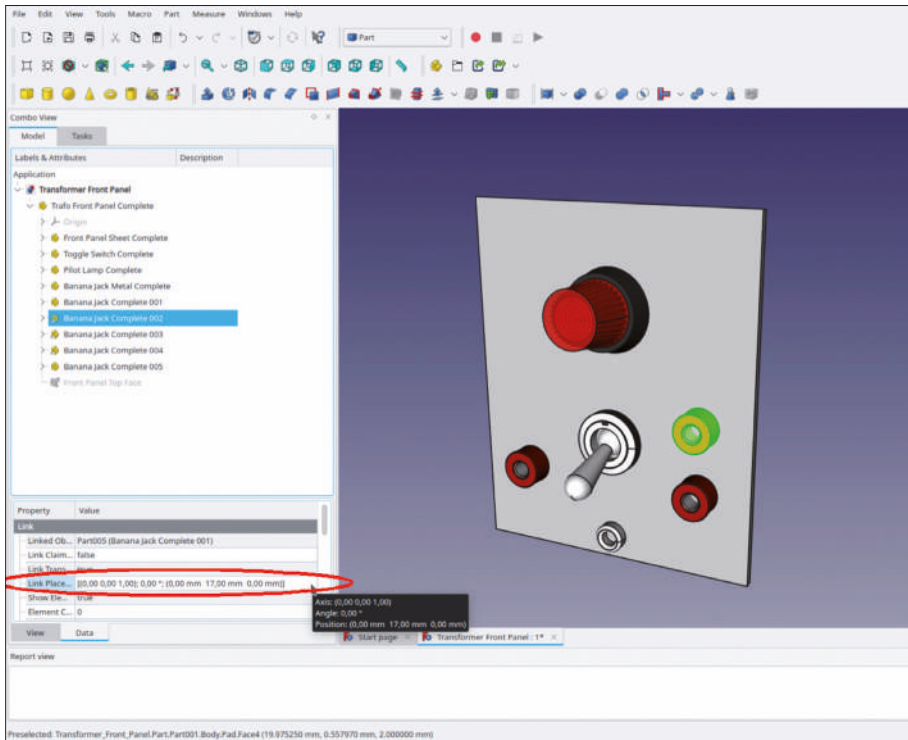

Figure 9-19
9. Adjust the link placement Y parameters according to the following table (Figure 9-19):